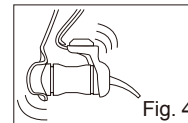

Fig. 4
- d) Immediately remove the capsule and set it into a mixer (or an amalgamator) and mix for 10 seconds (+/- 4,000RPM) (Fig. 4). More details on mixing times can be found in following chart.